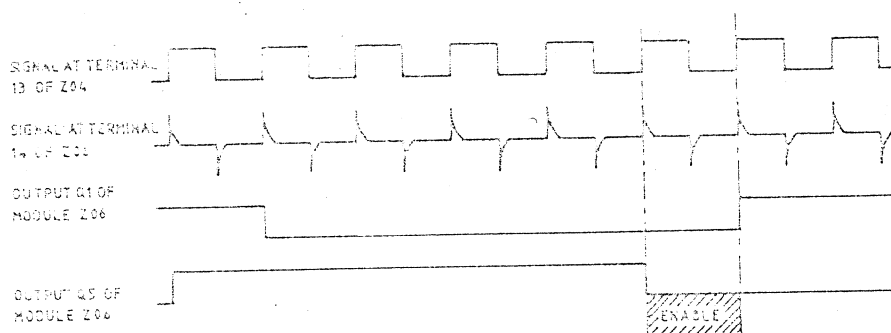

Fig. 17 Enabling with Odd Setting of 100 kHz Selector
- 126 Figure 17 shows the waveform of the signals appearing at the Q1 and Q5 outputs of Z06 for an odd setting of the 100 kHz selector.
- 127 It can be seen from Figure 17 that NOR gate 2 of module Z03 is enabled (logic '0') between the 6th and 7th clock pulses.